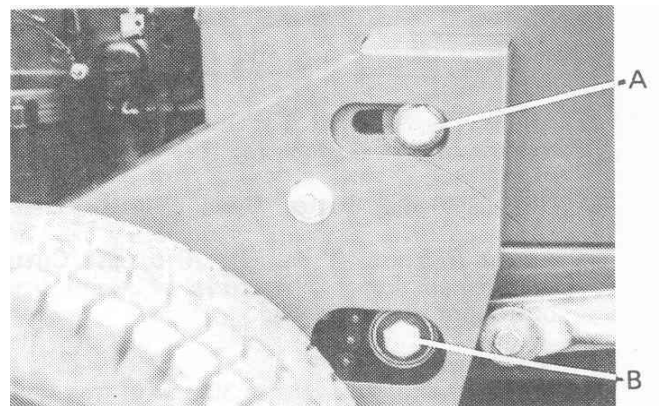

Fig. 24
1. Loosen off bolt 'A' Fig.24
1. Loosen off bolt 'B' Fig.24